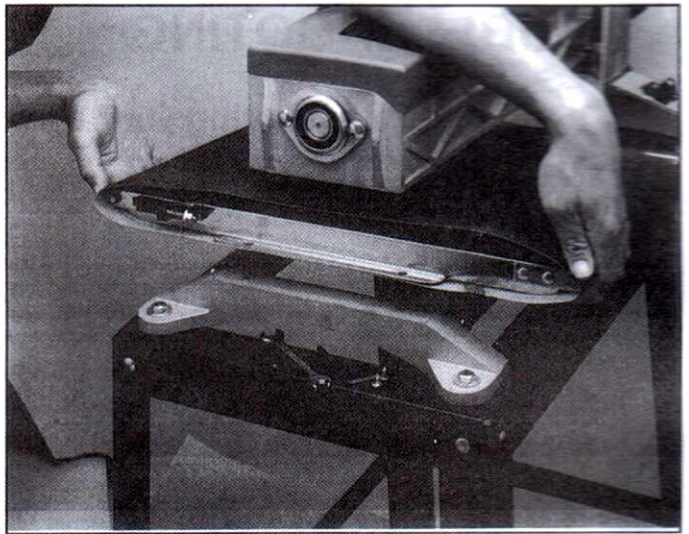

Figure 21
3. Using a phillips type screwdriver, remove the 2 screws and star washers securing the front nip guard to the variable speed control box. Then remove the front nip guard by sliding it to the left and off the outboard drive roller bushing. (See Figure 21 for reference.)
6. Remove the used conveyor feed belt by grasping both sides of the belt as shown in Figure 21. Gently lift the conveyor table as you slide off the conveyor feed belt. If the belt will not move, further reduce the tension on the feed belt and ensure you are lifting the table high enough to allow the feed belt to slide off.